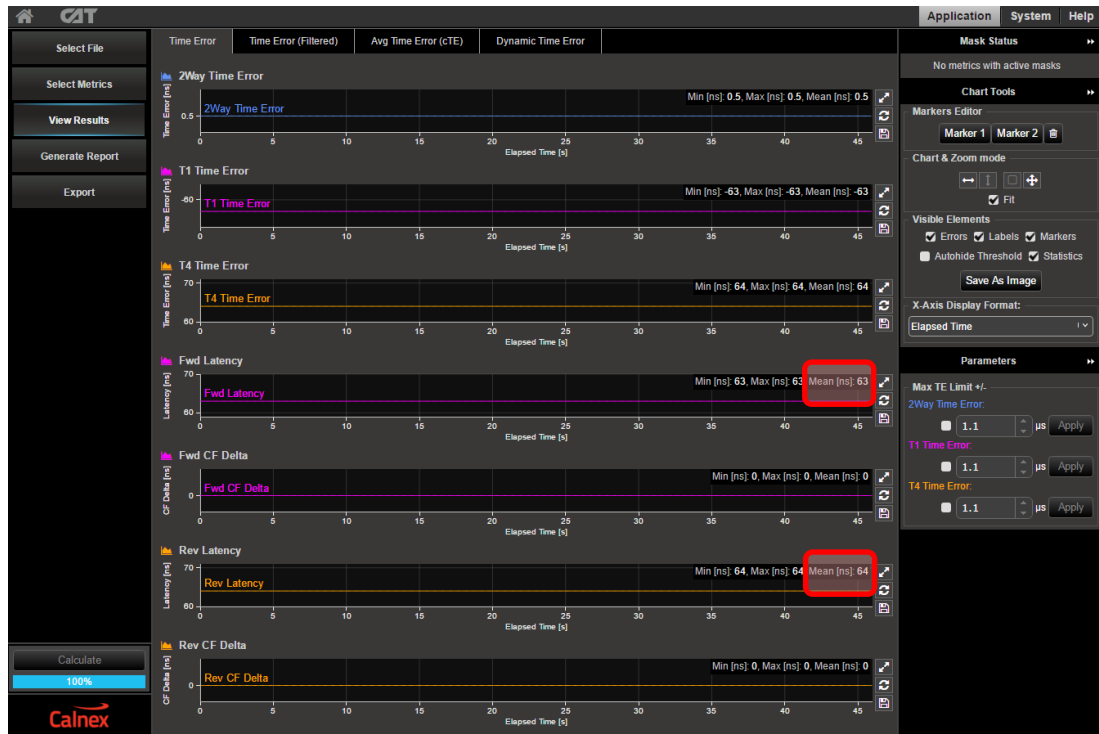

Figure 11
- c) Record the *Mean [ns]* value for the *Fwd Latency* and *Rev Latency* metrics shown below in Figure 11.